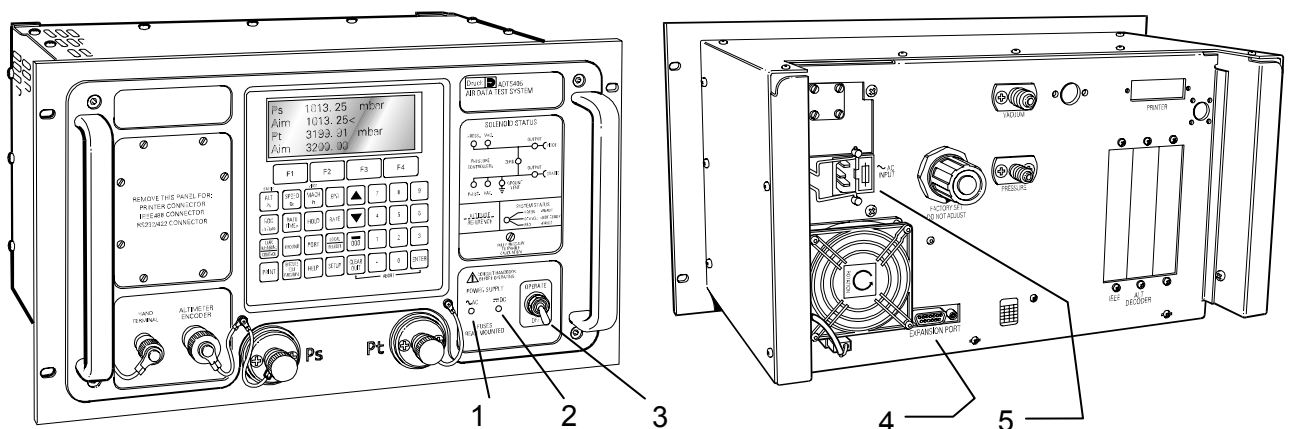

Figure 15 DPS501 Power Connection
1. Ensure that the DPS501 controller power switch (Fig. 15, #3) is in the OFF position prior to connecting the power cable.
3. Connect the standard three pin power cord supplied with the DPS501 to the power receptacle on the rear of the DPS501 (Fig. 15, #5) and to an AC power source (47-440 Hz / 88-260 VAC).
4. Verify that the AC Power Indicator LED (Fig. 15, #1) is illuminated.
5. Turn the power switch for the DPS501 Controller (Fig. 15, #3) to the ON position.